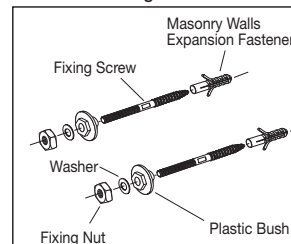

Fig. 2
- 3- Insert Expansion Fasteners into the drilled holes in masonry wall. The Fixing Screws should be screwed into the wall using the flat section of the Fixing Screw with a spanner as shown in **Fig. 2**. Allow 48 mm of thread to protrude from the finished wall.